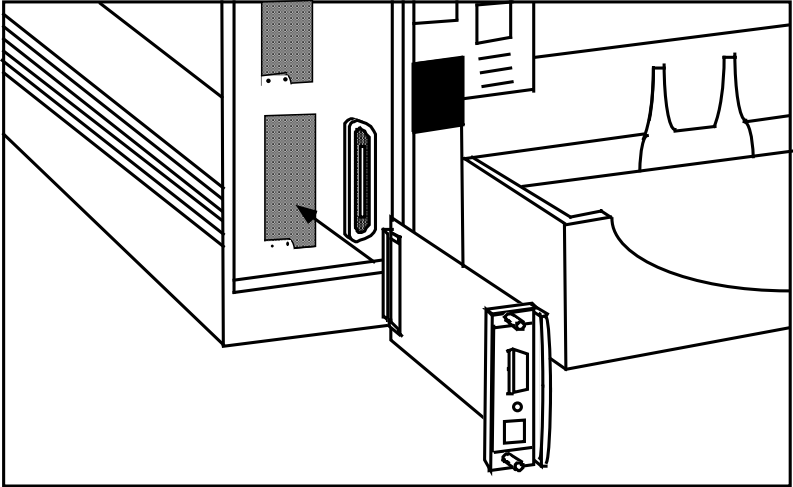

Figure 2-3
3. Insert the XJet 3000 into the I/O slot and tighten down the two thumbscrews (see figure 2-3). **Note:** *Some EIO printers have two slots. The XJet 3000 may be installed in either slot.*